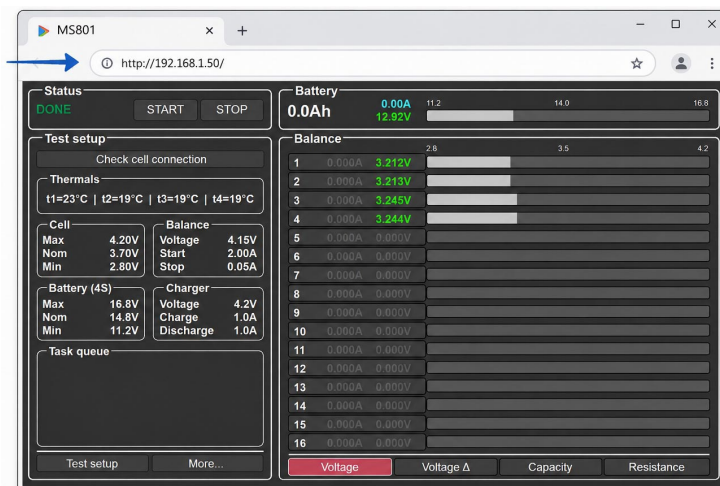

Figure 29
3. Enter the tester's IP address into the browser address bar and press Enter. Example connection address: <http://192.168.1.50> (see Fig. 29).